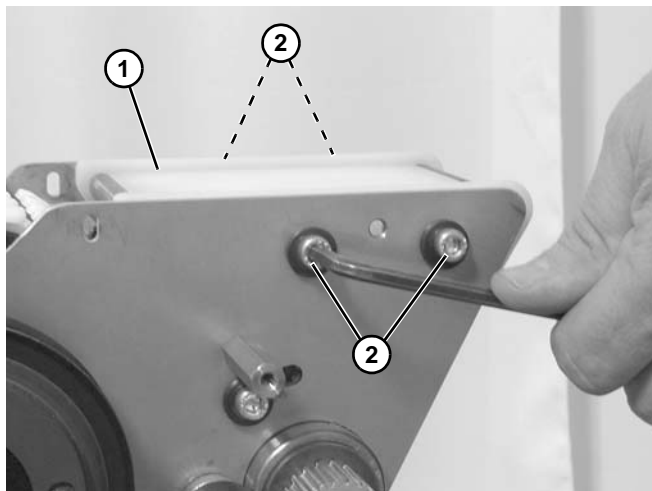

Figure 140
5. Install wear bar assembly (Figure 140, item 1) with four socket head screws (Figure 140, item 2).